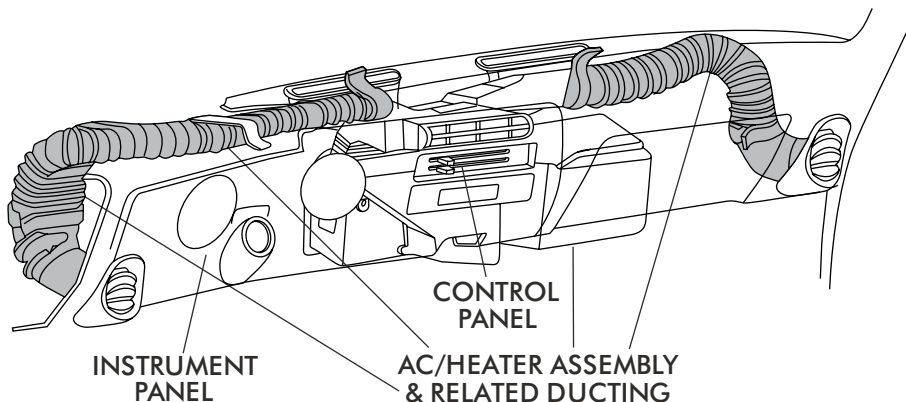

FIGURE 2
- REMOVE THE DASH PAD BY REMOVING (6) OEM SCREWS.(RETAIN), SEE FIGURE 2 BELOW.
- ALL HOSE AND DUCTING FROM O.E.M LOUVERS, SEE FIGURE 2 BELOW
- THE (2) O.E.M UNDER DASH LOUVER ASM (DISCARD), SEE FIGURE 2 BELOW
FIGURE 2 a